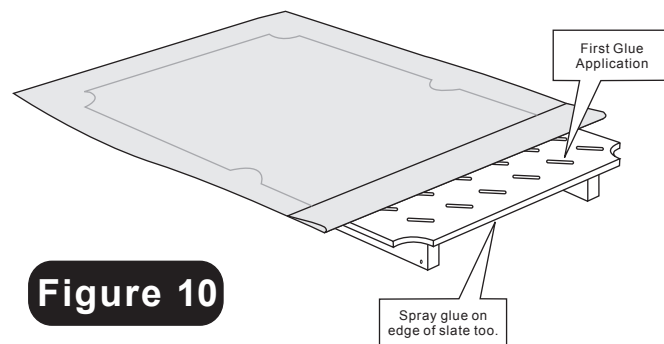

Figure 10
3. Fold cloth away from end to expose Play Bed for your first glue application. Apply contact cement to top surface in a band 4 inches wide on this end. (See **FIGURE 10**) Coat edge also. Spray cement smoothly and evenly. Allow cement to become tacky, wait at least one minute.